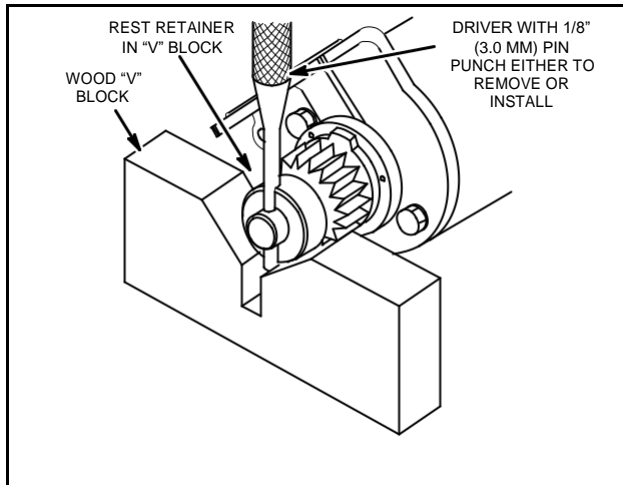
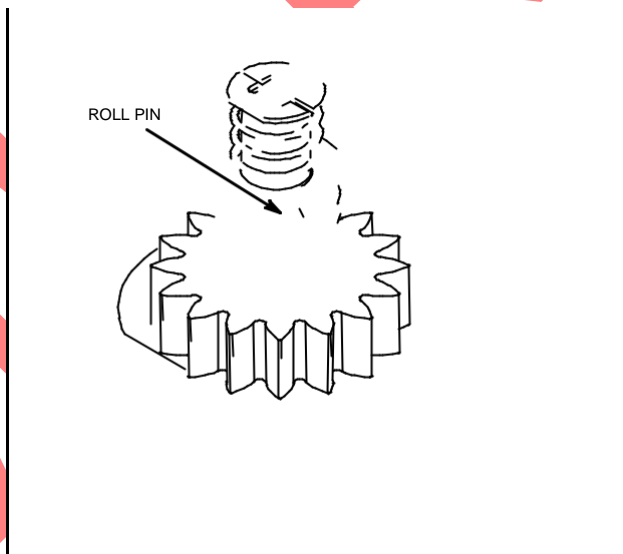
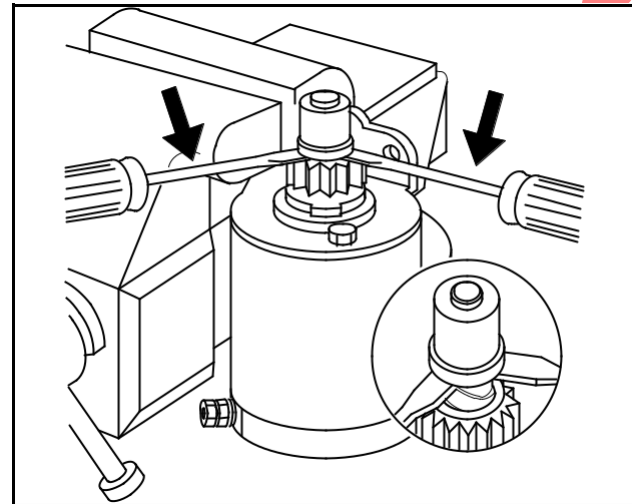

Fig. 691 – DISASSEMBLING STARTER MOTOR DRIVE
Fig. 692 – CURRENT STYLE SPRING RETURN
Fig. 693 – REMOVING CAP ASSEMBLY (SOME MODELS)
The early style is protected by a plastic cap over the drive assembly. Carefully remove the plastic cap from the cup using two screwdrivers, Fig. 693.
2. Place in "V" block as shown in Fig. 691.
**NOTE:** Some starter drive assemblies utilize a gear return spring. Two (2) styles of returns have been used, current style, Fig. 692 and early style, Fig. 693. The current style is removed after removing the roll pin, Fig. 691.